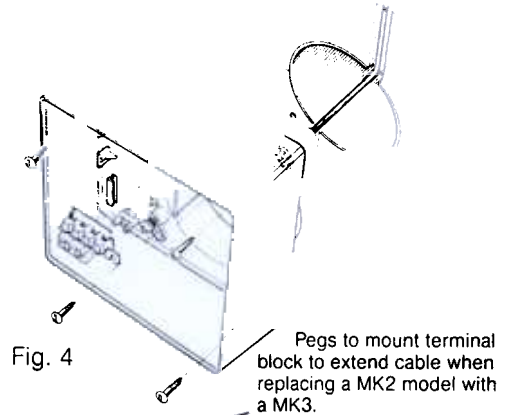

Fig. 4
**5.5** Drill and plug the four fixing holes for the backplate to accept 38 mm long No. 8 roundhead screws. Fit the backplate to the wall after feeding the cables through the entry hole. Retain with four screws, which should not be overtightened. Reassemble the case by aligning it with the backplate and sharply tapping opposite edges with the palm of the hand until it is securely latched (see Fig 4).
**7.5** Feed the cables through the entry hole in the backplate and fix the case and backplate to the support using four 38 mm No. 8 roundhead screws, which should not be overtightened. Reassemble the case by aligning it with the backplate and sharply tapping opposite edges with the palm of the hand until it is securely latched (see Fig. 4).